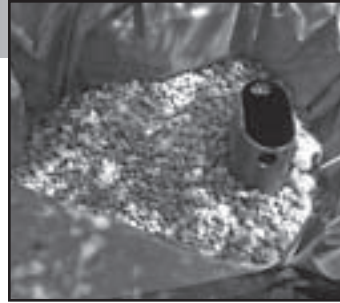

Fig. 21 Add the 1 1/2" to 2" size gravel.
- Add the 1 1/2" to 2" size gravel into the basin up to the side of the Pondless® Waterfall Vault. (See fig. 21)